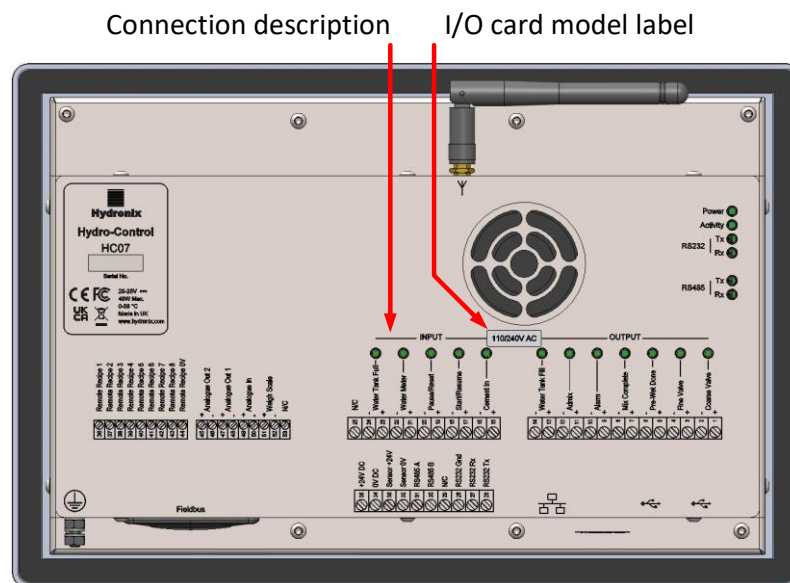

Figure 2: The rear of the Hydro-Control – connector labels
**IMPORTANT NOTE:** When fitted with the **AC I/O card** (device model HC07-110) the Hydro-Control may have some of its electrical connections carrying mains voltage. **This is true for terminals 1-24.** Please check the label indicated on Figure 2 for details.